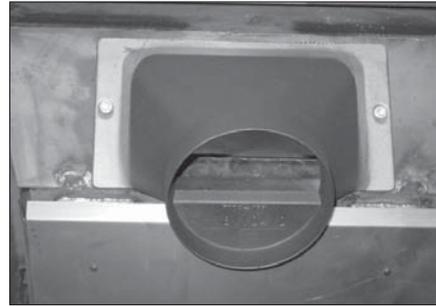

Figure 13.3
4. Turn vent to horizontal position. Inspect sealant to ensure a leak free application. **Figure 13.3.**